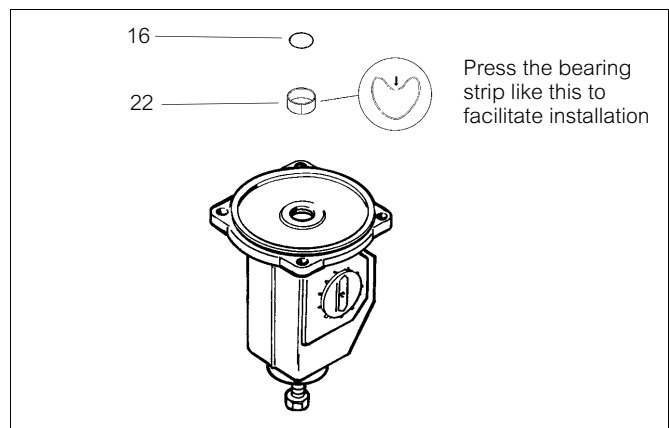

Fig. 9 Mounting the piston rod bearing and seal
- ☐ Remove the O-ring (16) and the bearing (22). Clean the seal space.
- ☐ Lubricate the seal space and the new O-ring with Unisilikon L250L or equal silicone grease. Install the new bearing and O-ring. See Figure 9.